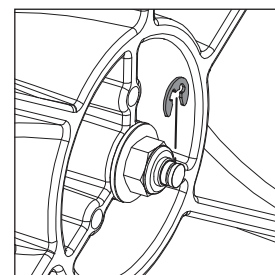

FIGURE 9.2
2. Carefully remove the 8mm E-Clip from the flywheel shaft using the flathead screwdriver or pliers. (Figure 9.2)